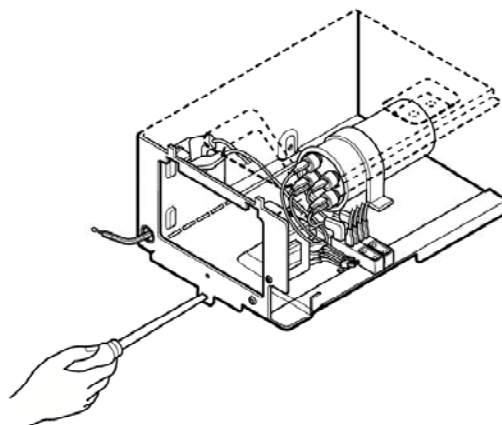

Figure 11
5. Re-install the components by referring to the above removal procedure. (See Figure 11)